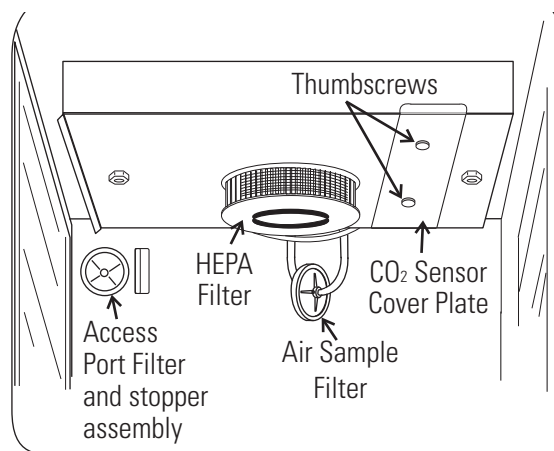

Figure 1-17. Filter and Plate
2. Locate the stopper with filter in the hardware bag. Lift the metal port cover and install the assembly in the opening inside the chamber. See Figure 1-17.
3. Also in the hardware bag is the CO₂ sensor cover plate. Install, using the 1/4-turn fasteners. Refer to Figure 1-17 for the location.